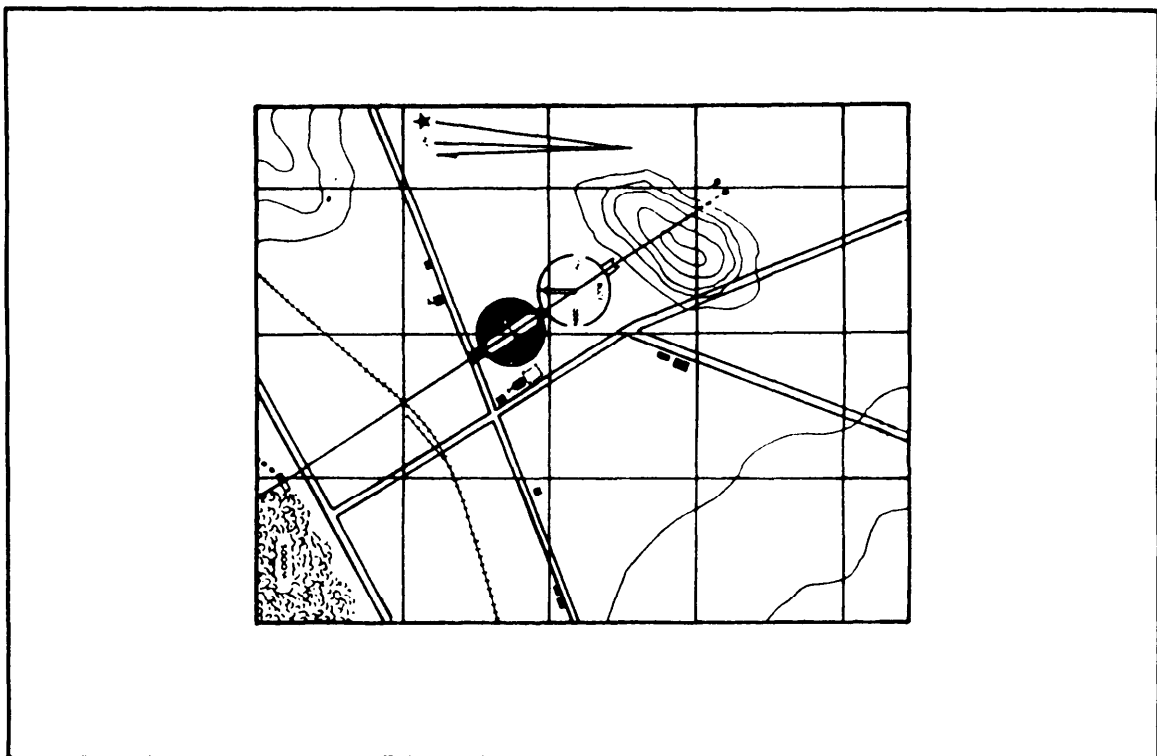

Figure 6-23. Map-and-compass method.
- (d) Map-and-compass method. The leader locates the MK 19 position and target on a map; draws a line between the two points; orients the map to the terrain; and places the line of sight on the compass along the gun-target line drawn on the map. The leader then announces the magnetic azimuth at the compass index to the gunner as the direction of lay (Figure 6-23). Using this method with terrain-profiling techniques permits the MK 19 to be used in various defilade positions.